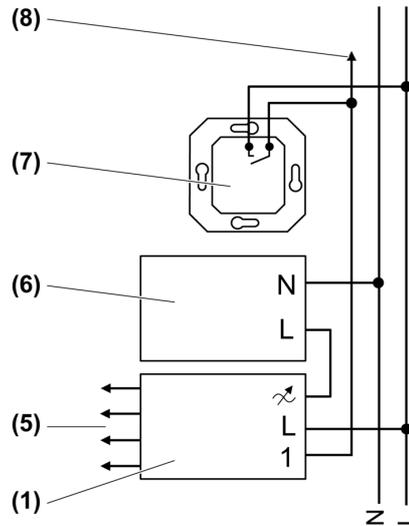

Figure 2: Connection diagram
- (1) Dimmer
- (5) Control cable for power boosters
- (6) Load
- (7) Installation button, NO contact
- (8) Connection of additional installation buttons
- Connect dimmer and installation button according to connection diagram (Figure 2).